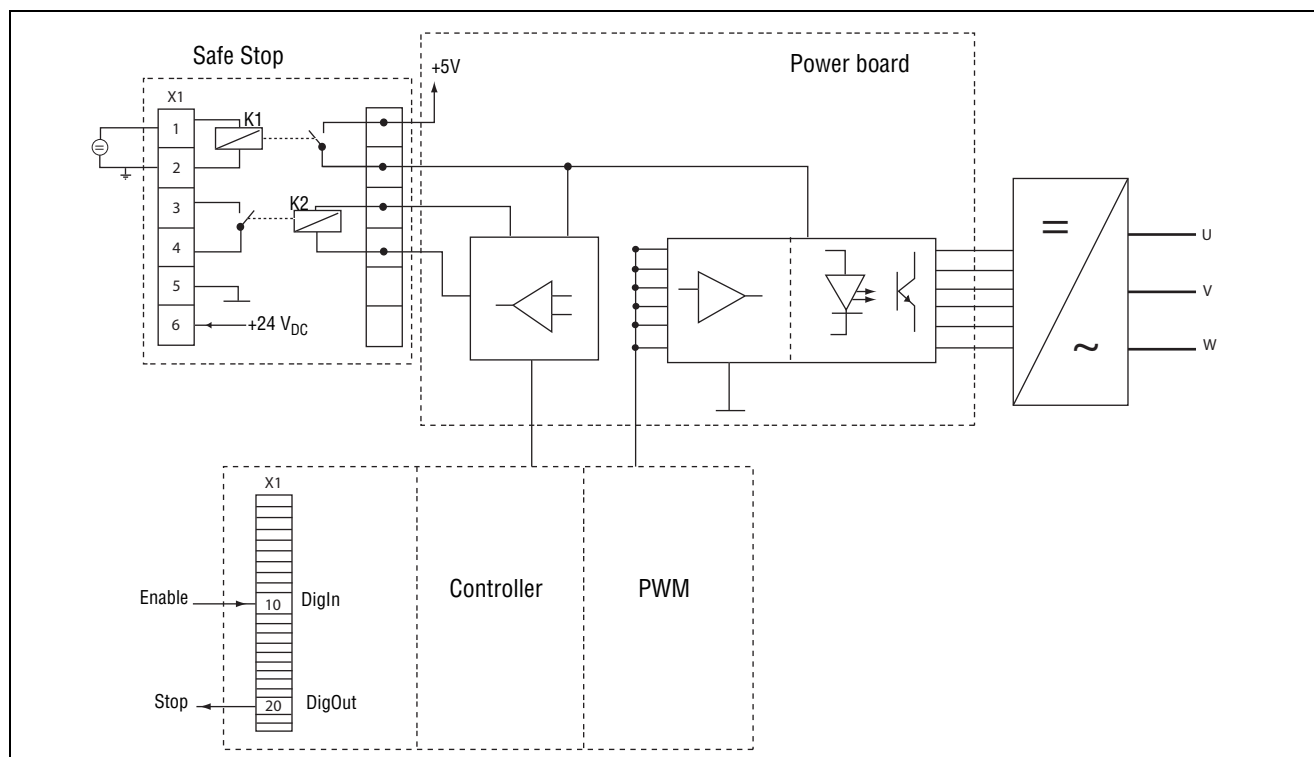

Fig. 124
- "Inhibit" input, terminals 1 (DC+) and 2 (DC-) on the Safe Stop option board should be made active by connecting $24 V_{DC}$ to secure the supply voltage for the driver circuits of the power conductors via safety relay K1. See also Fig. 124.
- High signal on the digital input, e.g. terminal 10 in Fig. 124, which is set to "Enable". For setting the digital input please refer to section 11-5-2, page 198.
To monitor the "Enable" function, the selection "RUN" on a digital output can be used. For setting a digital output, e.g. terminal 20 in the example Fig. 124, please refer to section 11-5-4, page 207 [540].